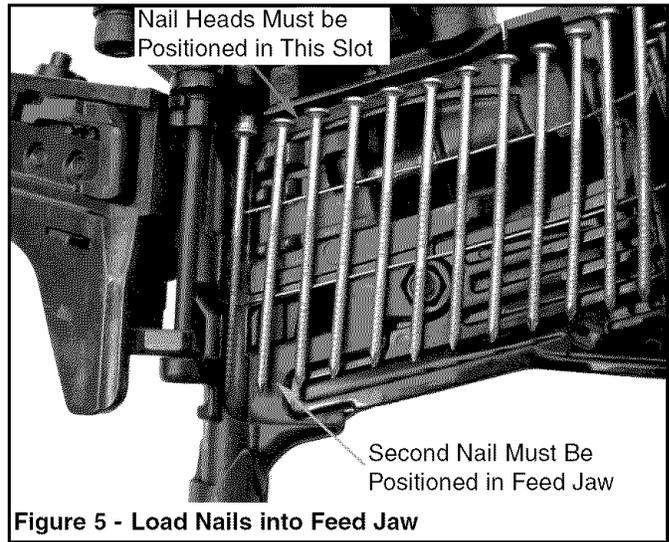

Figure 5 - Load Nails into Feed Jaw
- Unwrap coil so that second nail can be placed between sides of feed jaw. The ram (Fig. 11, No. 20) may need to be pushed up to fit in the first nail. Make sure that the nail heads are positioned in the slot at the top of the nail feed rack (see Figure 5).